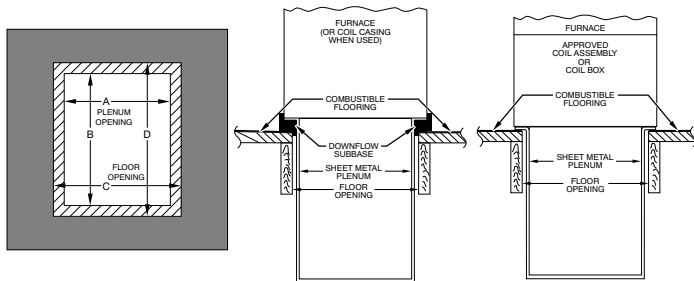

Fig. 25 – Installation on Combustible Flooring
2. Construct hole in floor per Table and Fig. 25.
3. Construct plenum to dimensions specified in Table and Fig. 25.
4. If downflow subbase is used, install as shown. If manufacturer’s cased evaporator coil or coil casing is used, install as shown in Fig. 25.